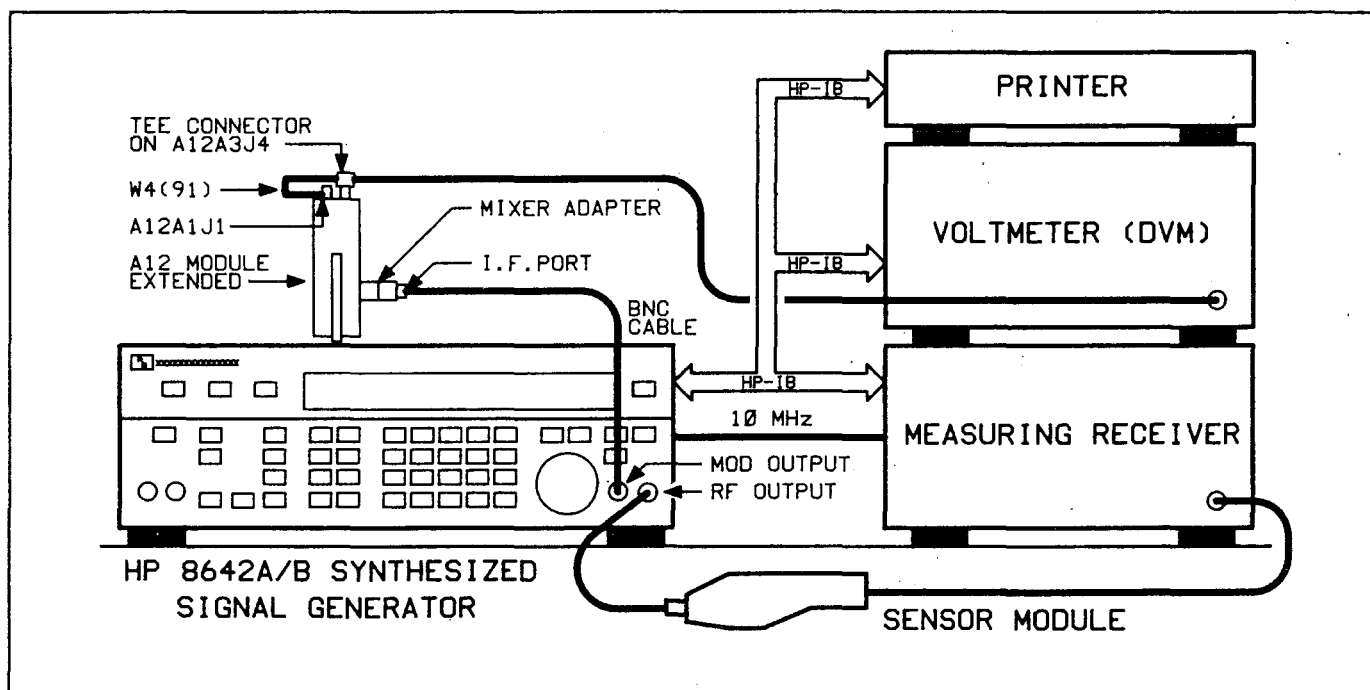

Figure 80-14. Set up 4
13. When **"WAITING FOR SET-UP 4 .V27"** appears: (refer to Figure 80-14 Set-up 4)